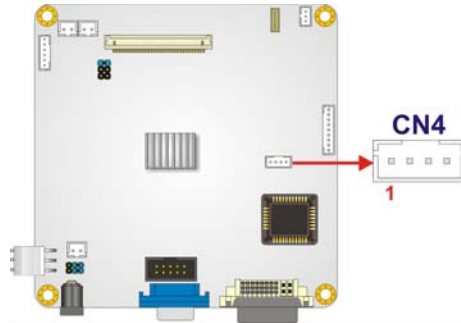

Figure 4-28: Debug Port Connector Location
- CN Location: See Figure 4-28